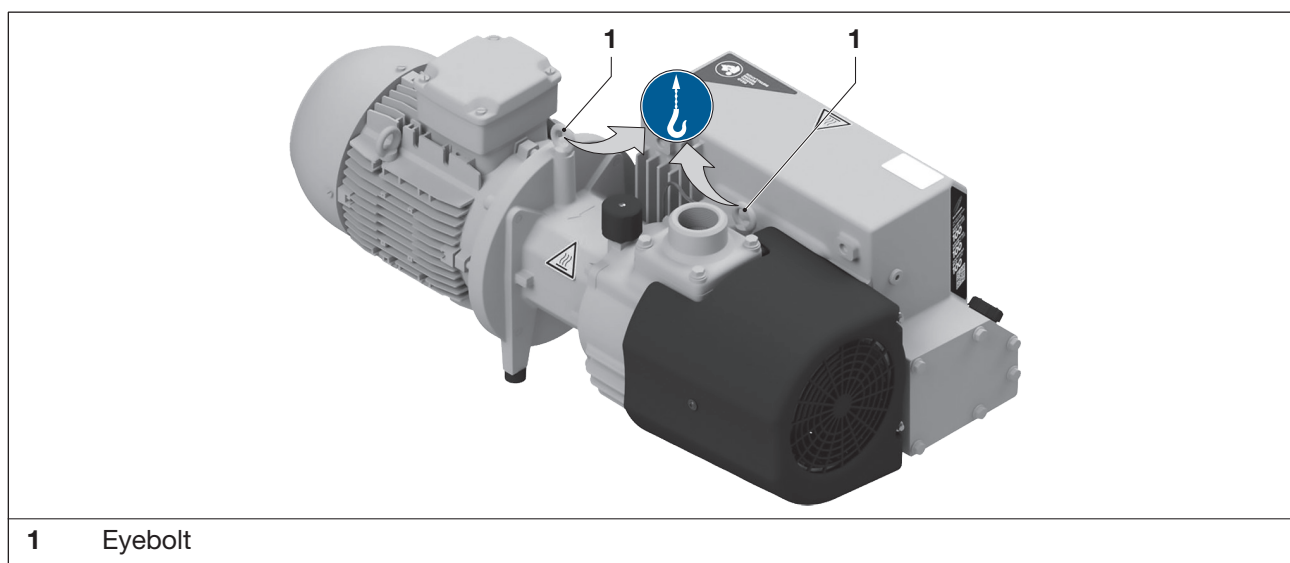

Fig. 1 Load handling equipment for lifting and transporting
- b) Tighten the eyebolts (Fig. 1/1) firmly.